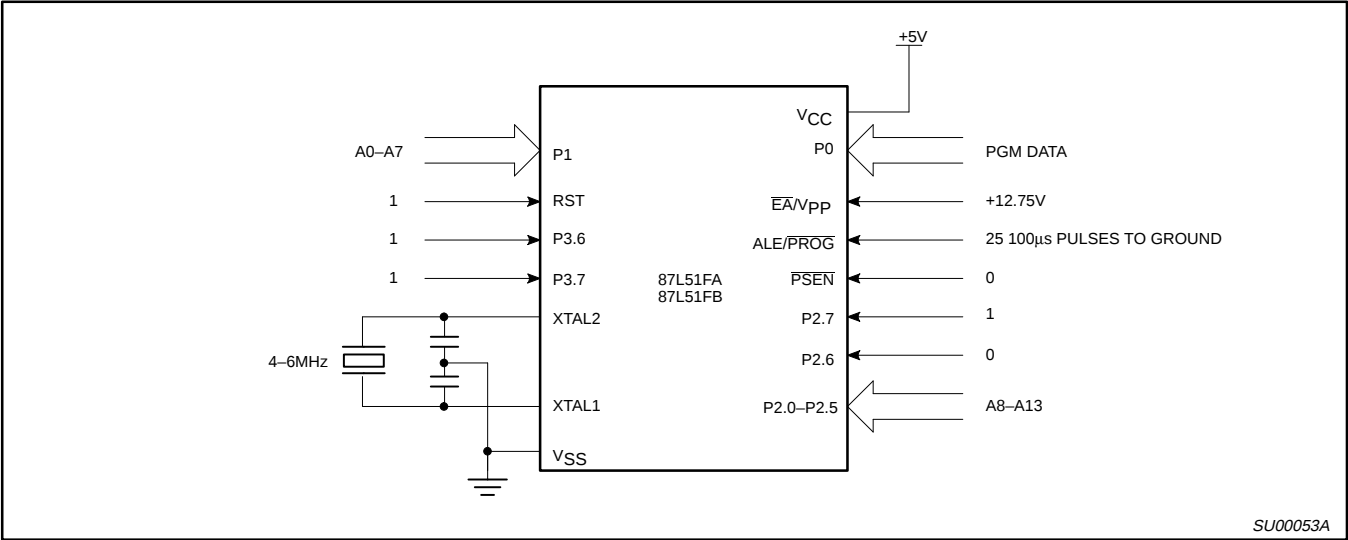
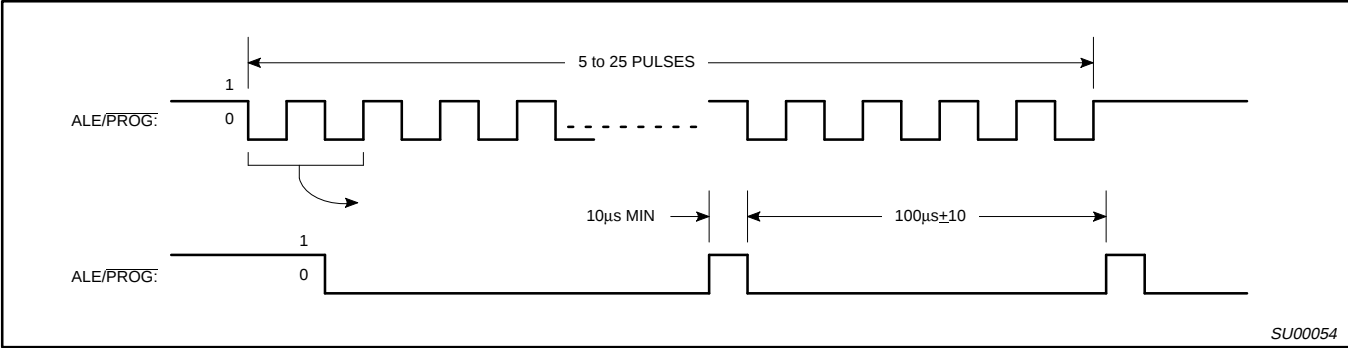
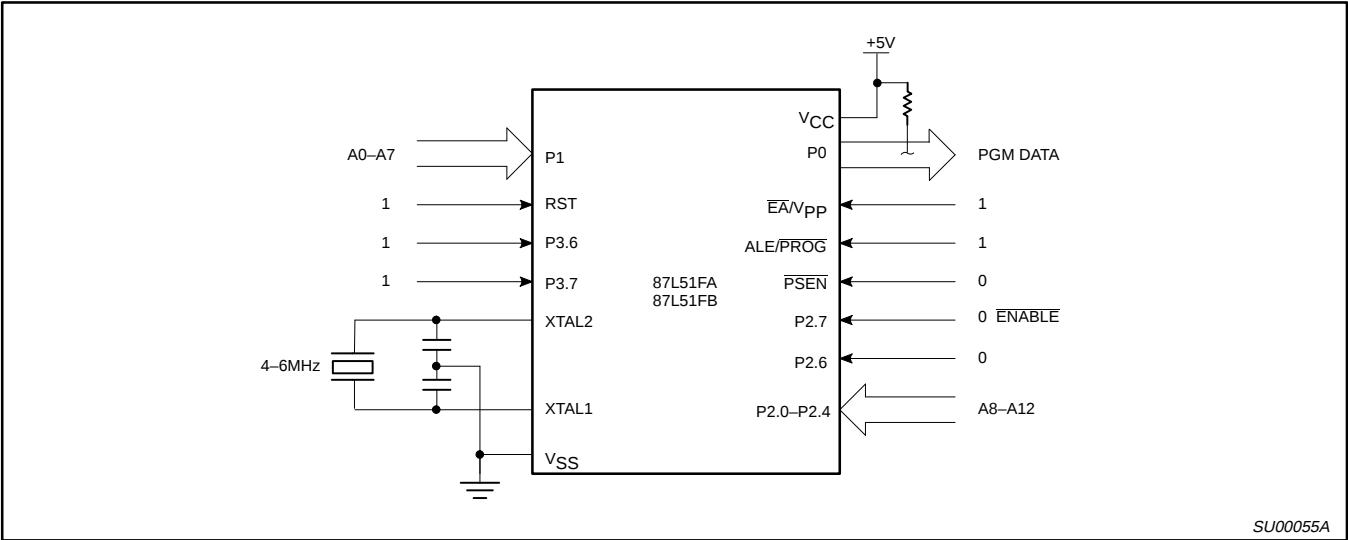

Figure 13. Programming Configuration
Figure 14. PROG Waveform
Figure 15. Program Verification
Table 2 shows the logic levels for reading the signature byte, and for programming the program memory, the encryption table, and the security bits. The circuit configuration and waveforms for quick-pulse programming are shown in Figures 13 and 14. Figure 15 shows the circuit configuration for normal program memory verification.
The setup for microcontroller quick-pulse programming is shown in Figure 13. Note that the 87L51FA/FB is running with a 4 to 6MHz oscillator. The reason the oscillator needs to be running is that the device is executing internal address and program data transfers.
The address of the EPROM location to be programmed is applied to ports 1 and 2, as shown in Figure 13. The code byte to be programmed into that location is applied to port 0. RST, $\overline{PSEN}$ and pins of ports 2 and 3 specified in Table 2 are held at the 'Program Code Data' levels indicated in Table 2. The ALE/PROG is pulsed low from 5 to 25 times as shown in Figure 14.
If security bit 2 has not been programmed, the on-chip program memory can be read out for program verification. The address of the program memory locations to be read is applied to ports 1 and 2 as shown in Figure 15. The other pins are held at the 'Verify Code Data' levels indicated in Table 2. The contents of the address location will be emitted on port 0. External pull-ups are required on port 0 for this operation.
- * FOR PROGRAMMING VERIFICATION SEE FIGURE 13.
FOR VERIFICATION CONDITIONS SEE FIGURE 15.